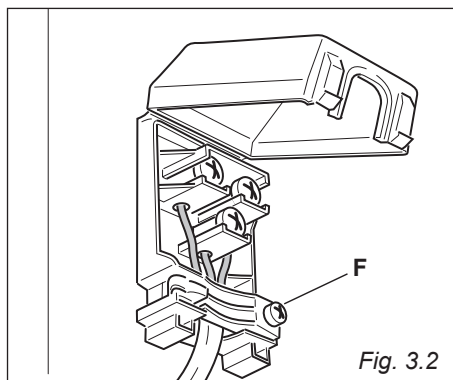

Fig. 3.2
- Open the cable gland by unscrewing screw “F” (fig. 3.2), unscrew the terminal screws and remove the cable.